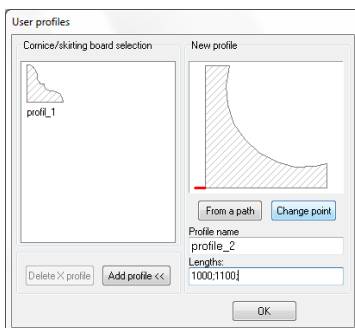

Fig. 240 – profile with selected touch-point
- you will see the selected point on the preview (Fig. 240);